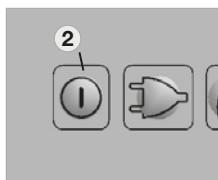

Fig. 1
- Switch off MES and AES models by pressing button (2). Keep button (2) pressed for 3 seconds. The display disappears and the appliance is fully switched off (Fig. 1).